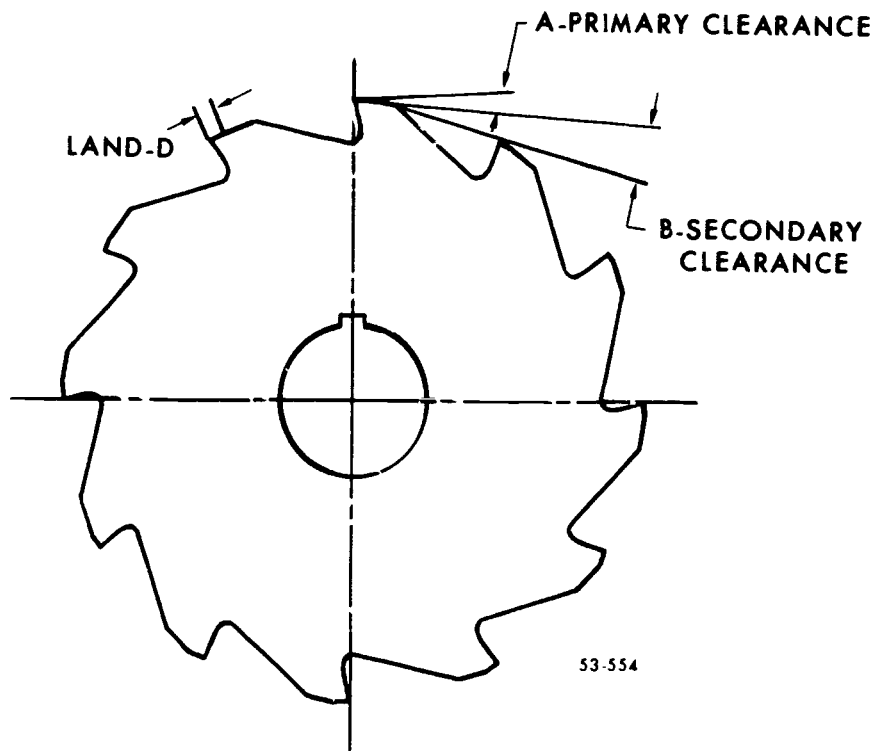

Figure 3-25 Rec. mended clearance angles
**Cutting Tool Clearance.** Correct clearance back of the cutting edge of any tool is essential. With insufficient clearance, the teeth will drag, producing friction and slow cutting. Too much clearance produces chatter and dulls the teeth rapidly. The cutting edge must have strength, and the correct clearance will produce this strength. Figure 3-25 shows a typical cutter tooth and the various angles produced by grinding. A secondary clearance of  $3^\circ$  to  $5^\circ$  in addition to the angle of the land (depending upon the design of the cutter), produces a strong tooth and provides easy control of the width of the cutting land. The width should be  $1/64$  inch to  $1/16$  inch, depending upon the diameter of the cutting tool. When the cutting land becomes too wide from many sharpenings, you must grind a secondary clearance to restore the land width to its correct dimension. You produce the secondary clearance by locating the wheel, cutter, and tooth rest properly. There are several setup methods, depending upon the type of wheel used, the shape of the work, and the location of the tooth rest. The wheel may be either a plain straight wheel or a cup wheel. The work may be straight or tapered and may have straight or helical teeth. The tooth rest may be located on either the wheelhead or on the table. The ends of the tooth rest vary in shape for different cutters. When you use a straight wheel, the clearance angle depends upon the diameter of the wheel. When you use the cup wheel,